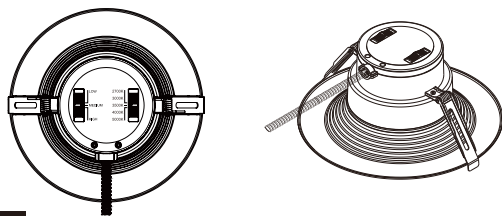

Fig. 3
- Adjust the CCT (correlated color temperature) and Lumen/Power to the desired levels using the switches on the back of the fixture (Fig. 3).